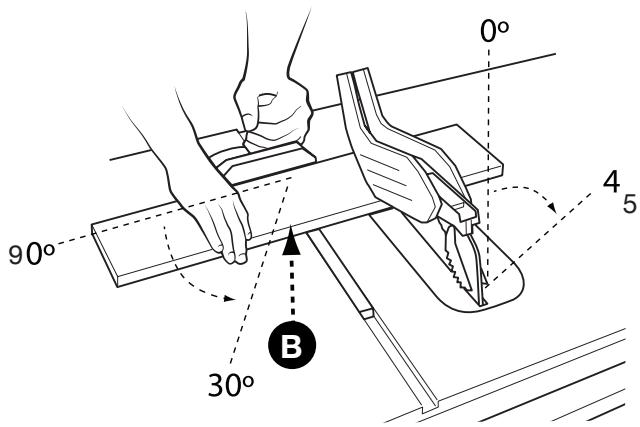

FIGURE 24
Miter crosscutting is the same as crosscutting except the miter angel (B) is set to an angle other than 90° (Fig. 24).
This is a combination of bevel crosscutting and mitering. Refer to (Fig. 24) and follow the instructions for both bevel crosscutting and mitering. Remember to use the right miter slot on the right side of the blade for all bevel cuts.